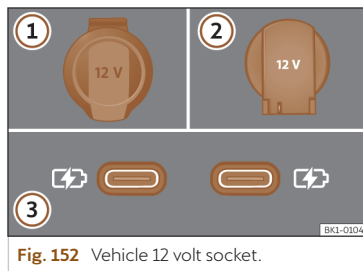

Fig. 152 Vehicle 12 volt socket.
>>> Fig. 152
Depending on the equipment and the country, the vehicle may also have USB connections **exclusively for charging or as a power socket** >>> Fig. 152 ③.